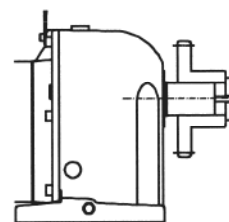

Fig.5 Sprocket installation
- (4) The tolerance for the holes of the sprocket, coupling, etc. should be H8. Smoothly install the sprocket, coupling etc. using the tap on the output shaft (refer to Fig.5)
- (5) Do not use any hammer for installation. Application of a large force may damage the bearing, gear, etc.